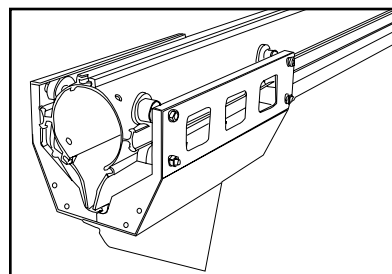

Fig. 10 Mount the sliding crab onto the rail.
- From open end of the rail, mount the sliding crab so the top wheels ride on the upper hollow in the rail and bottom wheels ride on the lower hollow in the rail. See Fig. 10.